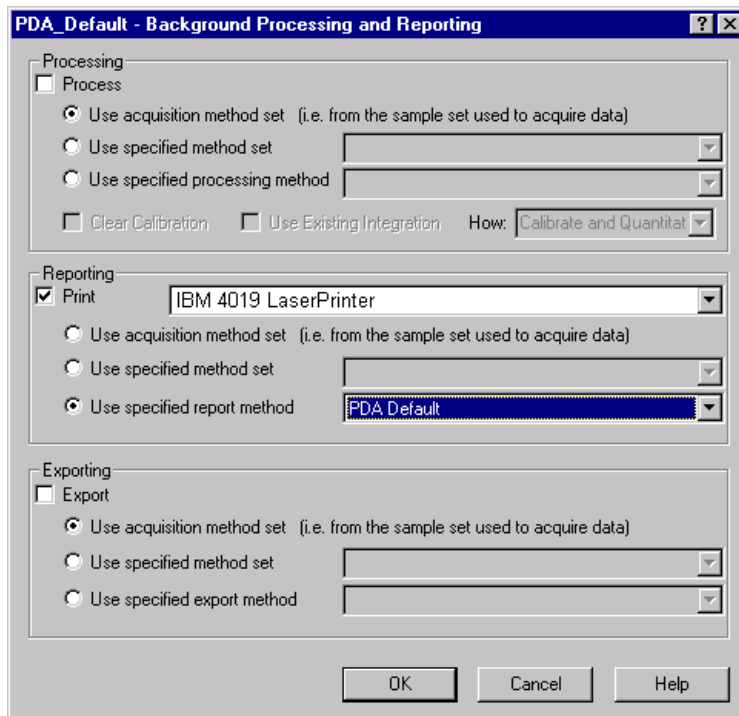

Figure 5-5 Background Processing and Reporting Dialog Box
3. Select the data you want to print, then click  (**Print**) in the Project window (Figure 5-4). The Background Processing and Reporting dialog box appears (Figure 5-5).